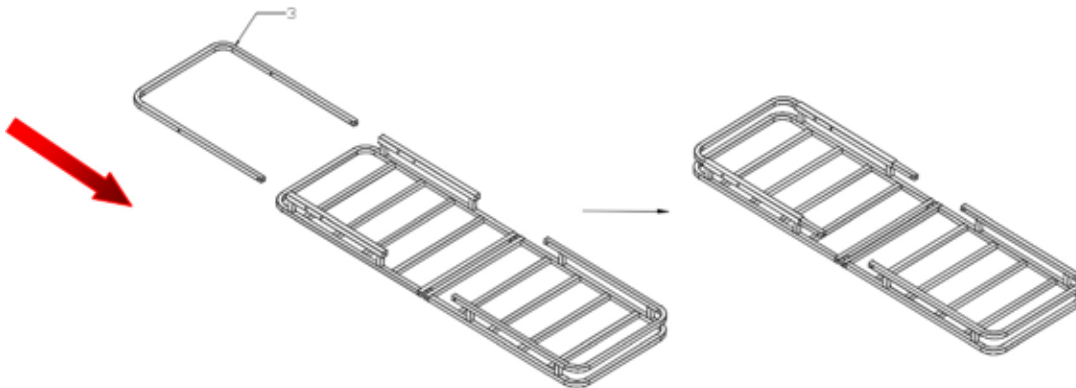

FIG: 2
2. Insert the U-tube handle (3) into the left carrier frame along the arrow direction. See FIG 2.